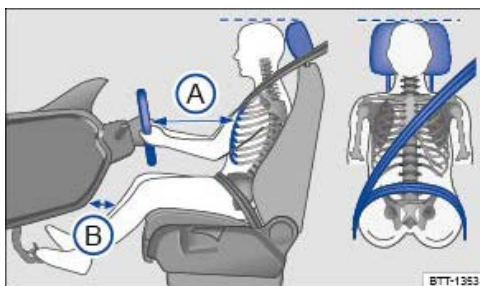

Fig. 1 Correct distance between the driver and the steering wheel, correct seat belt routing and correct head restraint adjustment.
- Adjust the head restraint so that its upper edge is at the same height as the top of the head, but not lower than eye level. Position the back of your head as close to the head restraint as possible → *Fig. 1*.
- Adjust the steering wheel so that the distance between the steering wheel and your breastbone is at least 25 cm → Fig. 1  , and the circumference of the steering wheel can be held at the sides with both hands and your arms slightly bent → Steering wheel .
- Adjust the driver seat by moving it forwards or backwards so that you are able to press the pedals to the floor with your knees still slightly bent and so that the distance from the dash panel to your knees is at least 10 cm → Fig. 1  .